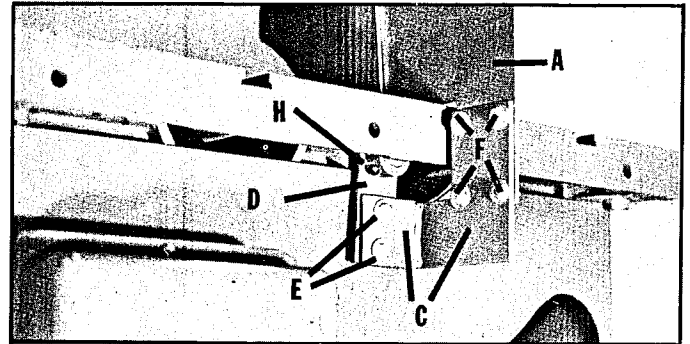

Fig. 14
2. Assemble splitter support bracket (C) Fig. 14, to bracket (D) using the two screws and washers (E). Do not tighten the screws (E) completely at this time. Fasten the other end of the splitter support bracket (C) to the rear of the splitter (A) using the four screws, nuts and washers (F). Make certain the rear of the splitter is aligned with the saw blade and securely tighten the six screws (E) and (F) and the set screw (H) Fig. 14.